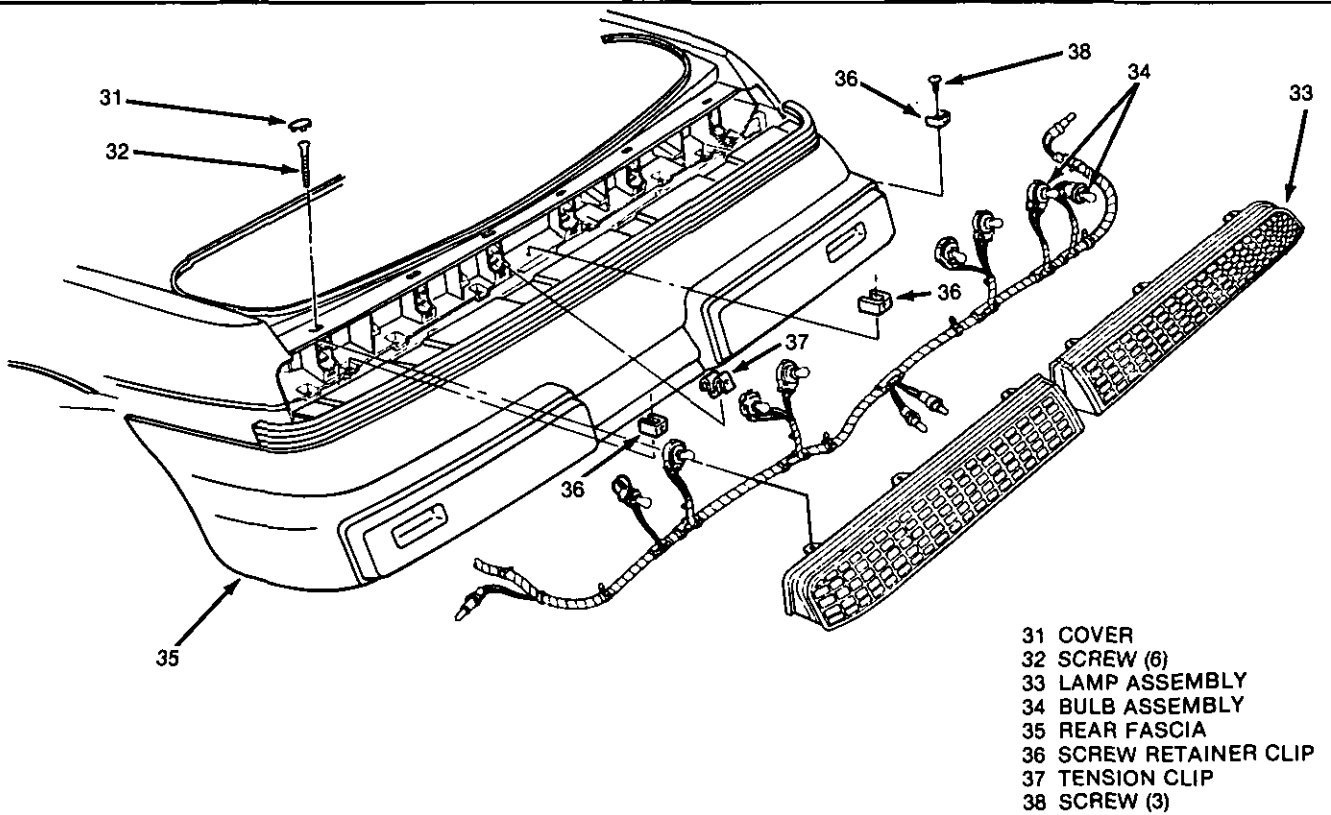

Fig. 14-Tail Lamp Assembly - 37 Style Shown, 97 Style Similar
**↔** Remove or Disconnect (Figure 14)
1. Covers (31)
2. Six screws (32)
3. Tail lamp assembly (33)
4. Bulb assemblies (34)
**→←** Install or Connect (Figure 14)
1. Bulb assemblies (34)
2. Tail lamp assembly (33)